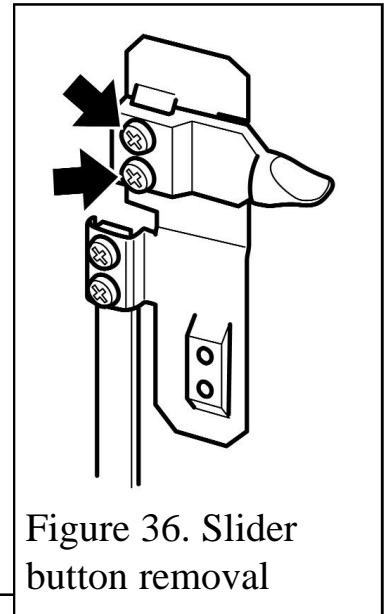

Figure 36. Slider button removal
3. Detach the control slide button from the extension bracket by removing two screws (See figure 36).